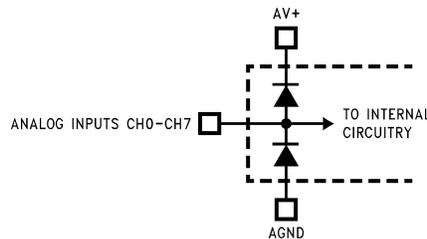

Figure 6.
- (1) Two on-chip diodes are tied to each analog input as shown below. They will forward-conduct for analog input voltages one diode drop below ground or one diode drop greater than V^+ supply. Be careful during testing at low V^+ levels (+4.5V), as high level analog inputs (+5V) can cause an input diode to conduct, especially at elevated temperatures, which will cause errors in the conversion result. The specification allows 50 mV forward bias of either diode; this means that as long as the analog V_{IN} does not exceed the supply voltage by more than 50 mV, the output code will be correct. Exceeding this range on an unselected channel will corrupt the reading of a selected channel. If AV^+ and DV^+ are minimum ($4.5 V_{DC}$) and full scale must be $\leq 4.55 V_{DC}$. See Figure 6
- (2) No connection exists between AV^+ and DV^+ on the chip. To ensure accuracy, it is required that the AV^+ and DV^+ be connected together to a power supply with separate bypass filter at each V^+ pin.
- (3) One LSB is referenced to 10 bits of resolution.
- (4) All the timing specifications are tested at the TTL logic levels, $V_{IL} = 0.8V$ for a falling edge and $V_{IH} = 2.0V$ for a rising. TRI-STATE voltage level is forced to 1.4V.
- (5) Typicals are at $T_J = T_A = 25^\circ C$ and represent most likely parametric norm.
- (6) Tested limits are ensured to AOQL (Average Outgoing Quality Level).
- (7) Total unadjusted error includes offset, full-scale, linearity, multiplexer, and hold step errors.
- (8) The DC common-mode error is measured in the differential multiplexer mode with the assigned positive and negative input channels shorted together.